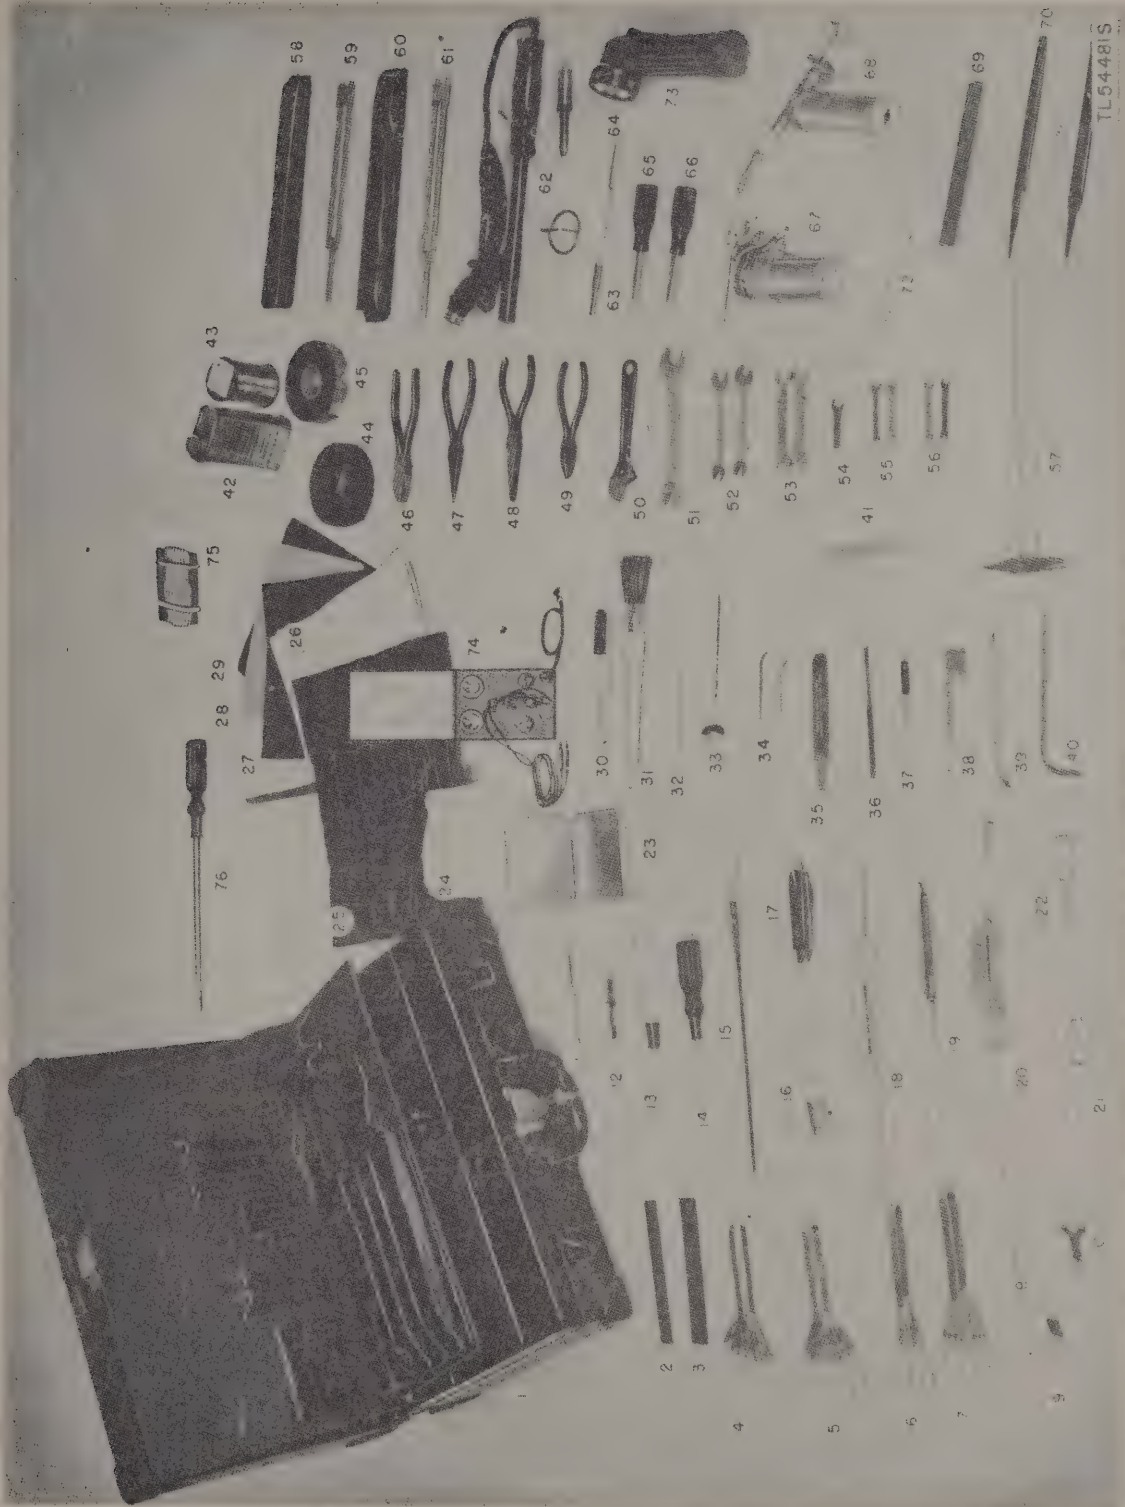

Figure 7. Tool equipment TH-50.
*Reference numbers refer to figure 7.